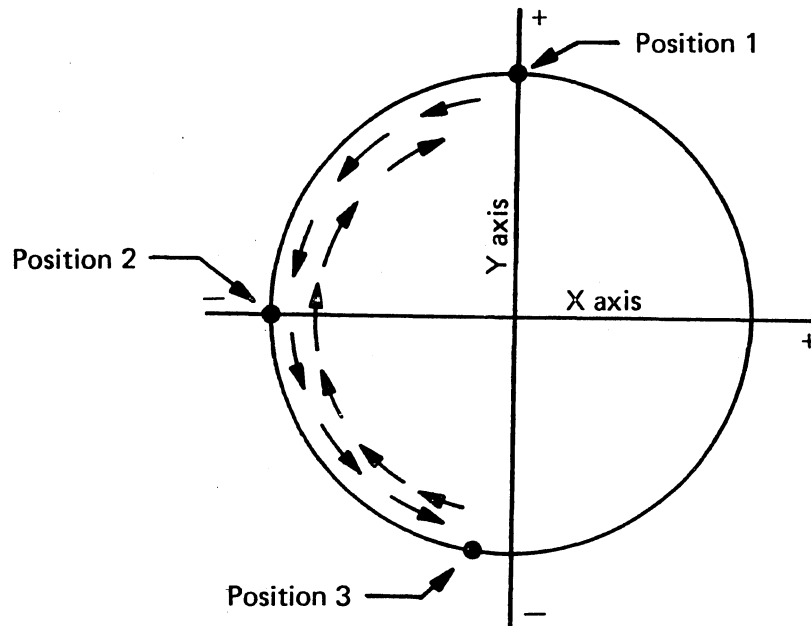

Figure 5-5. TRACK "0" STOP ADJUSTMENT PATTERN
- indicate Track "0." Using the Horizontal Position knob, center the dot on the top portion of the oscilloscope Y axis, see Figure 5-5, Position 1.
- Depress the servo release button. With slight pressure, force the head positioner against its crash stop. Adjust the eccentrics, K and L, located directly below the head cable connector bracket (see Figure 5-4, view B) so that the trace comes to rest within position 2 of Figure 5-5, but not past it.
- Transfer the Load/Run switch from Load to Run to Load, several times. The trace should swing a maximum arc of 180° from the top Y axis position to an equivalent position on the negative portion of the Y axis traveling in a ccw direction (see Figure 5-5, Position 3). If it exceeds 180°, repeat steps 3 through 7.